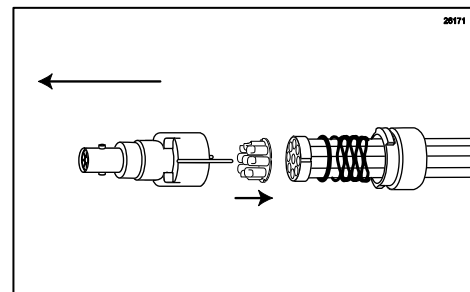

Figure 55
4. Remove the Syrup Line Manifold from the tube connector body, then remove the Duckbill Check Valve from the Syrup Line Manifold. (See Figure 55.)